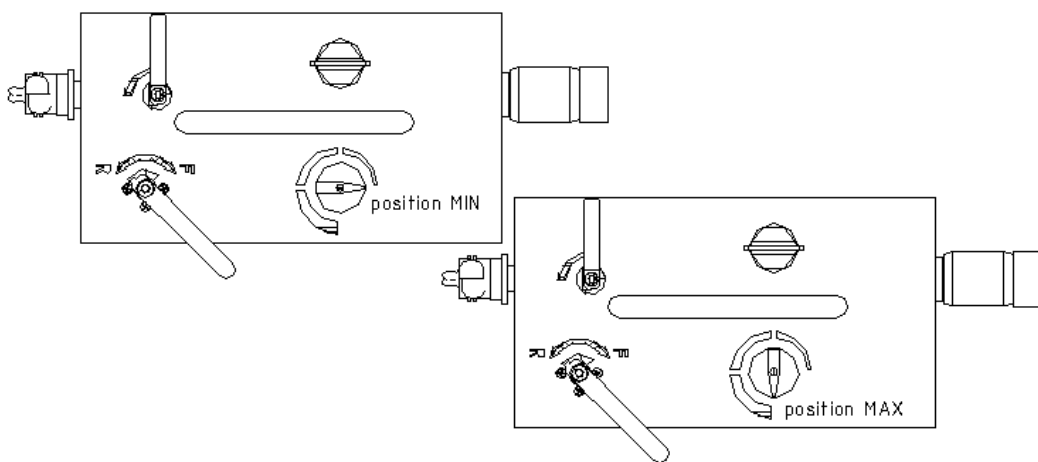

Figure 9.1.1
- c) In the starting pit introduce the mole into the expander previously installed in the bore. To do this, manually insert the mole's head into the expander and then start the mole in forward direction (Figure 8.4.1.) with minimum opening of air supply valve. (Figure 9.1.1.)
- turn the machine on for 20 seconds with maximum lubrication (Figure 9.1.1)
- turn the machine on for 30 seconds with minimum lubrication (Figure 9.1.1)